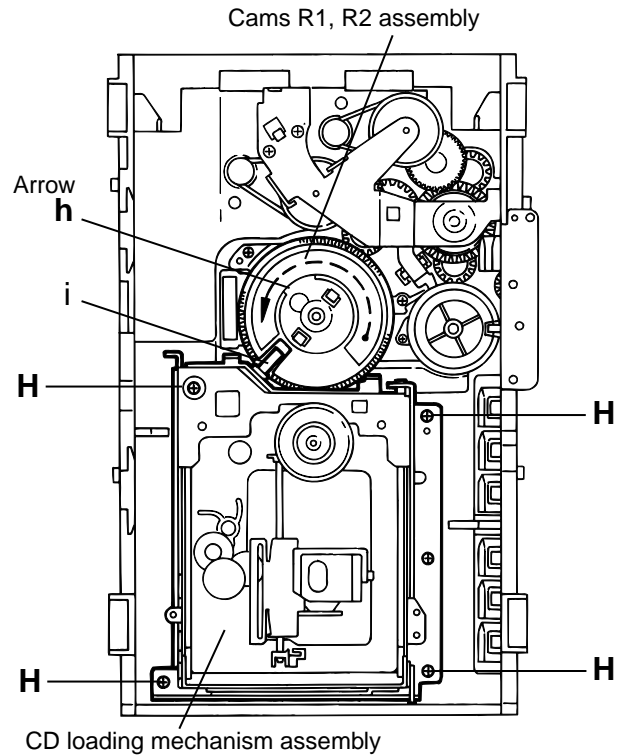

Fig.10
**■ Removing the CD loading mechanism assembly(See Fig.10)**
1. While turning the cams R1 and R2 assembly in the arrow direction "h",align the shaft "i" of the CD loading mechanism assembly to the position shown in Fig.10.